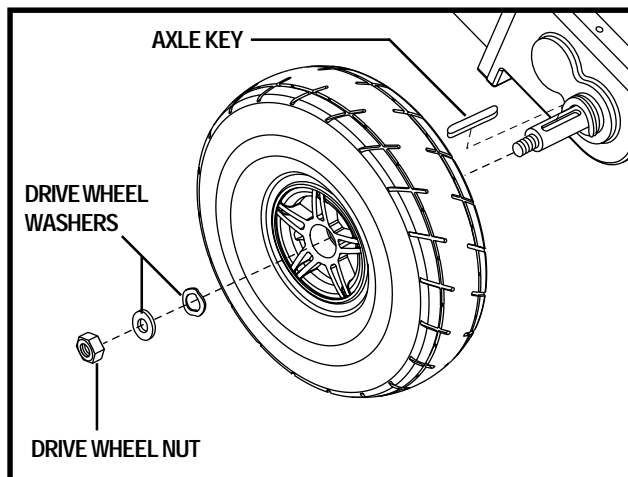

Figure 30. Drive Wheel Removal
4. Remove the drive wheel nut and washers from the axle. See figure 30.